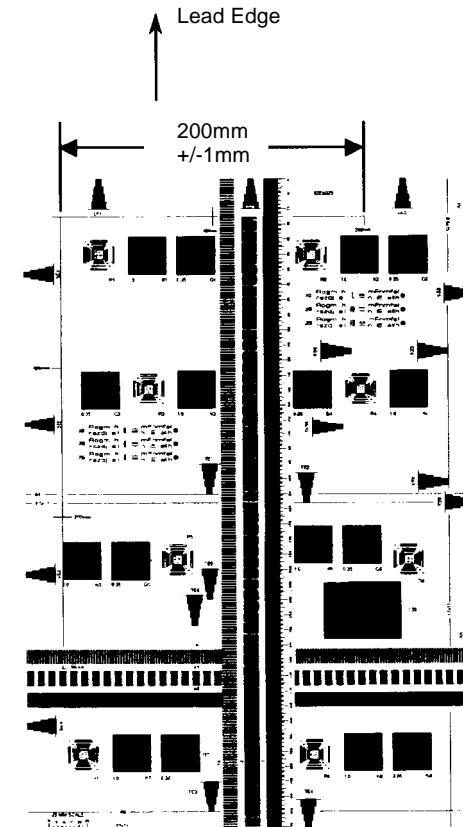

Figure 1 Checking Horizontal Magnification
3. **Check horizontal magnification (Figure 1):**